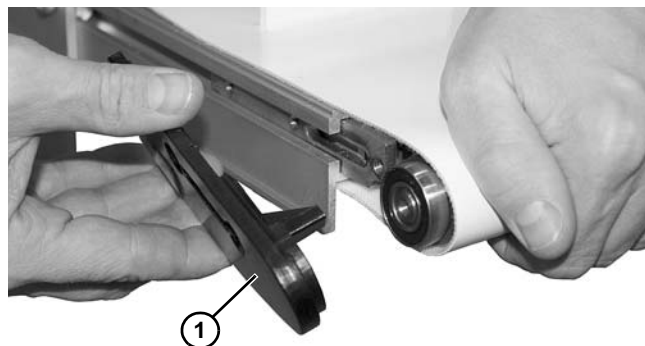

Figure 34
3. Remove the head plate (**Figure 34, item 1**) from the conveyor frame, holding spindle in place.